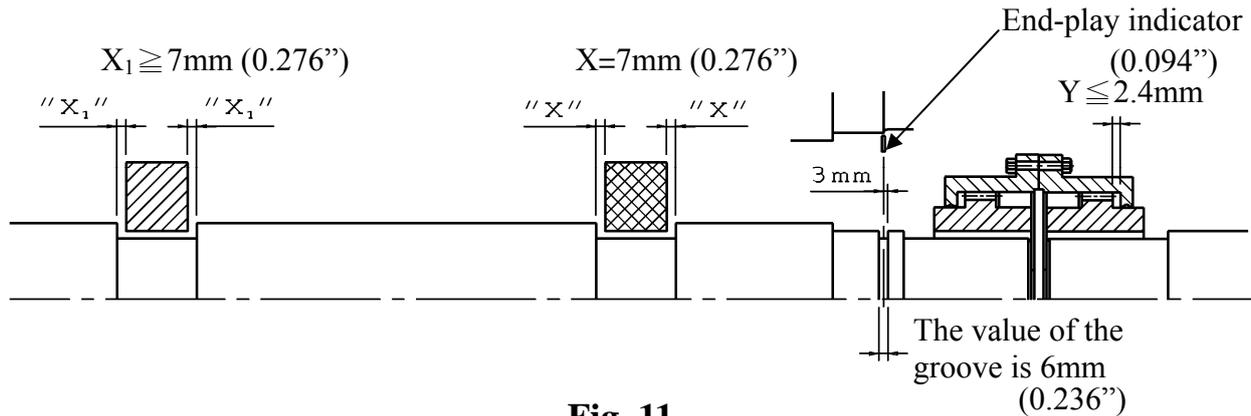

Fig. 11
- (b) Unless otherwise specified, the designed end-play value X of the groove for TECO-Westinghouse motors in general is within 7mm (0.276") as illustrated in Fig. 11. In essence, the end-play indicator is adjusted to point at the center of the groove or the drive-end shaft shoulder; thus X equals to 7 ± 1 mm (0.276" \pm 0.039") or so, and the end-play value (Y) of the couplings should equal or be smaller than 2.4mm (0.094").